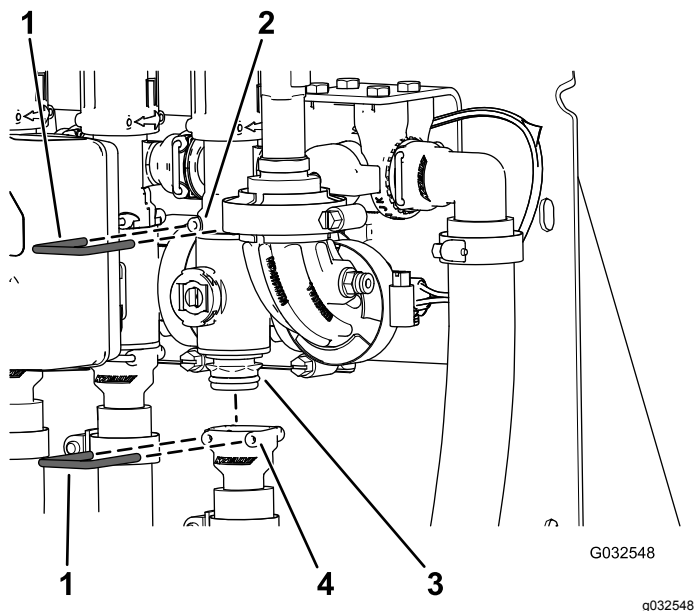

Figure 105
2. Remove the retainer that secures the section-valve manifold to the bypass fitting (Figure 105).